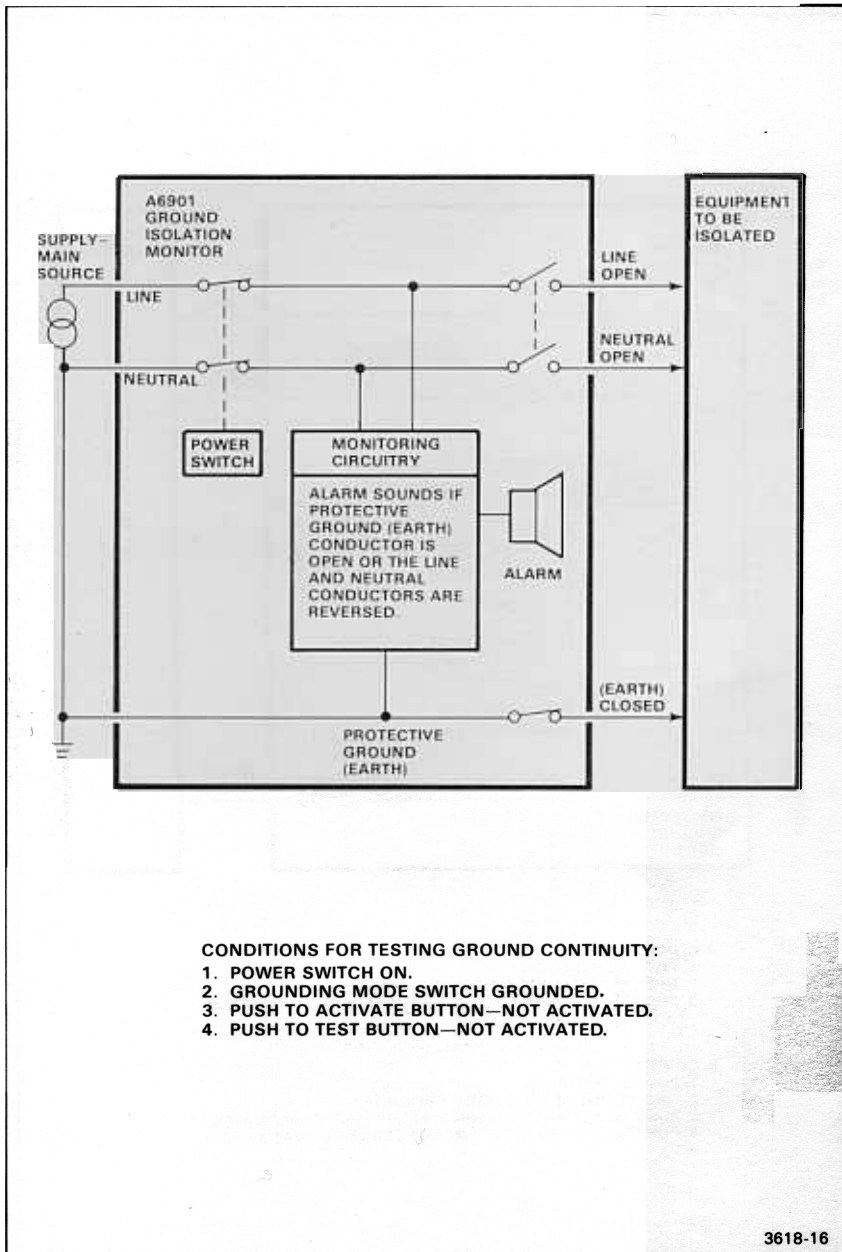

Figure 1-2. The A6901 tests for ground continuity and for line-and-neutral conductor reversal.
**Monitors Supply-Main Polarity and Checks for an Open Ground Conductor.** At initial turn-on, tests for open protective ground (earth) conductor and for line-and-neutral conductor reversal of the A6901 to the supply-main source. An audible alarm indicates a ground-fault condition. See Figure 1-2.